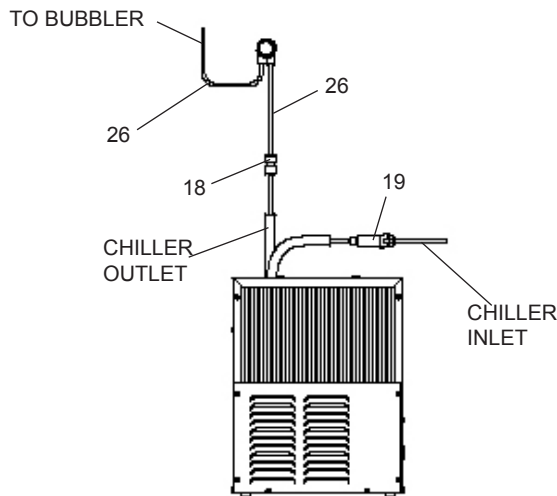

Figure 3 - ERPB Tube Routing
3. **ERP8 Models:** Make connection between remote chiller and building supply line. Inlet port is marked on the chiller (1/4" O.D. copper tube). Bend the copper tube (provided) at an appropriate length from chiller to opening in frame. Install the in-line strainer (provided with chiller) by pushing it until it reaches a positive stop, approximately 3/4" (19mm) on the marked chiller inlet port. Connect building supply line to strainer. (See Figure 3)